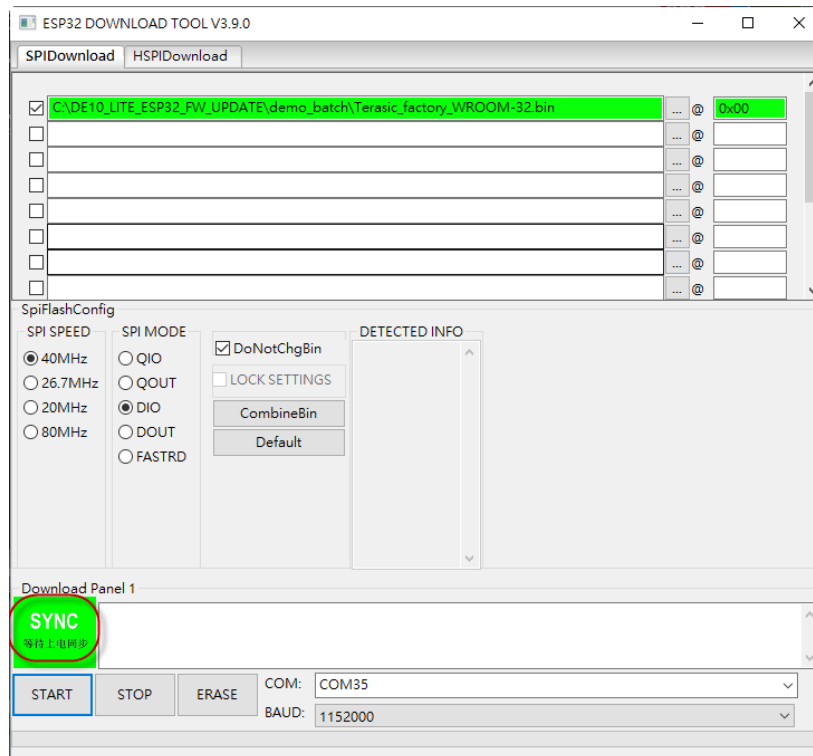

Figure 3-31 Firmware Download in SYNC status
9. If “SYNC” status appears on GUI, as show in **Figure 3-31**, please press and release the KEY1 button in RFS2.